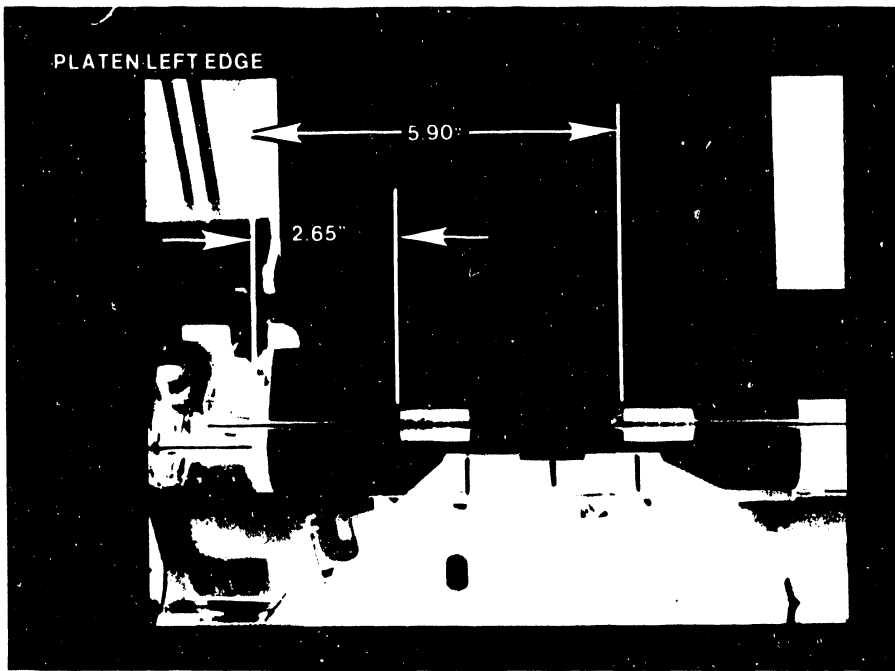

FIGURE 7 ROLLER ASSEMBLY PLACEMENT
- d. Position the four paper bail rollers with the two left rollers together with the left edge of the left roller 2.65 inches from the left edge of the platen (see Figure 7). Place other two rollers together with the left edge of the left roller 5.90 inches from the left edge of the platen (A reference template is included with the feeder for this adjustment). Install the four bail roller locator clips on each side of the rollers.